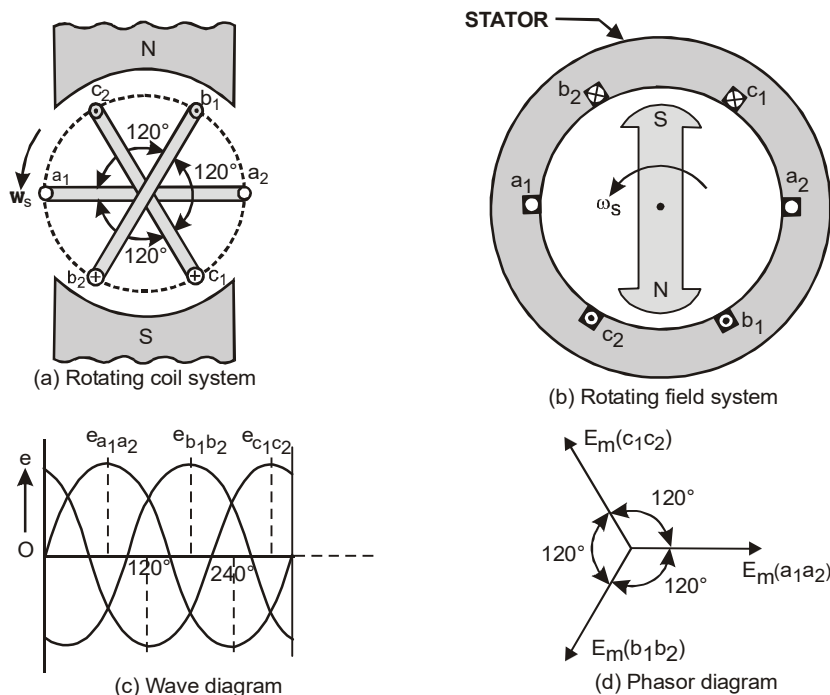

Fig. 2.73: Generation of 3-phase emfs
In a 3-phase system, there are three equal voltages (or e.m.fs.) of the same frequency having a phase difference of 120° . These voltages can be produced by a three-phase, a.c. generator having three identical windings (or phases) displaced 120° electrical apart. When these windings are rotated in a stationary magnetic field [see fig. 2.73 (a)] or when these windings are kept stationary and the magnetic field is rotated [see fig. 2.73 (b)], an e.m.fs. is induced in each winding or phase. These e.m.fs. are of same magnitude and frequency but are displaced from one another by 120° electrical.
Consider three identical coils $a_1 a_2$, $b_1 b_2$ and $c_1 c_2$ mounted as shown in fig. 2.73 (a and b). Here, a_1 , b_1 and c_1 are the start terminals, whereas, a_2 , b_2 and c_2 are the finish terminals of the three coils. It may be noted that a phase difference of 120° electrical is maintained between the corresponding start terminals a_1 , b_1 and c_1 . Let the three coils mounted on the same axis be rotated (or the magnetic field system be rotated keeping coils stationary) in anticlockwise direction at ω radians/second, as shown in fig. 2.73 (a) and 2.73 (b) respectively. Three e.m.fs. are induced in the three coils respectively. Their magnitude and direction, at this instant, are as mentioned below :
- (i) The e.m.f. induced in coil $a_1 a_2$ is zero (consider start terminal a_1) and is increasing in the positive direction as shown by wave $e_{a_1 a_2}$ in fig. 2.73 (c).
- (ii) The coil b_1b_2 is 120° (electrical) behind the coil a_1a_2 . The e.m.f. induced in this coil is negative and is becoming maximum negative (consider start terminal b_1) as shown by the e_{b1b2} in fig.2.73 (c).
- (iii) The coil c_1c_2 is 120° (electrical) behind b_1b_2 or 240° (electrical) behind a_1a_2 . The e.m.f. induced in this coil is positive and is decreasing (consider start terminal c_1) as shown by wave e_{c1c2} in fig.2.73 (c).
The e.m.fs. induced in three coils are of the same magnitude and frequency but are displaced by 120° (electrical) from each other as shown by phasor diagram in fig. 2.73 (d). These can be represented by the equations ;